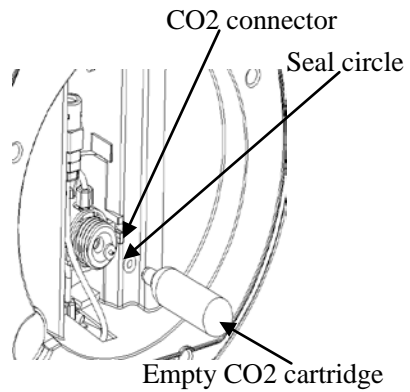

Figure 32
2. Install a new CO2 connector in the regulator (leave the sharp end outside toward), and install the seal washer (Show as figure 32). Don't remove other parts of regulator in the replacing process.